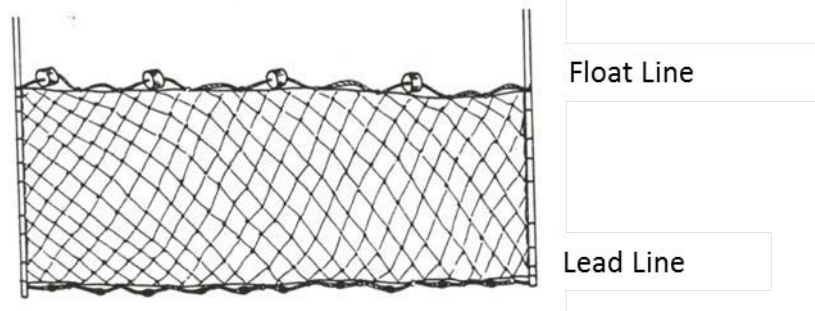

Figure 1. Seine net.
Water should be drawn down to a level of approximately 60-90 cm (2-3’). The easiest method for collecting fish from the shallow water is through the use of a seine net (Figure 1). Seine nets should be long enough to completely encircle the pool that remains in a drained pond. Seine net mesh is usually 1/8-3/16” with the width of the seine approximately 3-4’. Once the pond is drained to the 60-90 cm level, you may commence the seining procedure.
3. As you approach the tub(s) make sure the lead line is ahead of the float (see Figure 1)